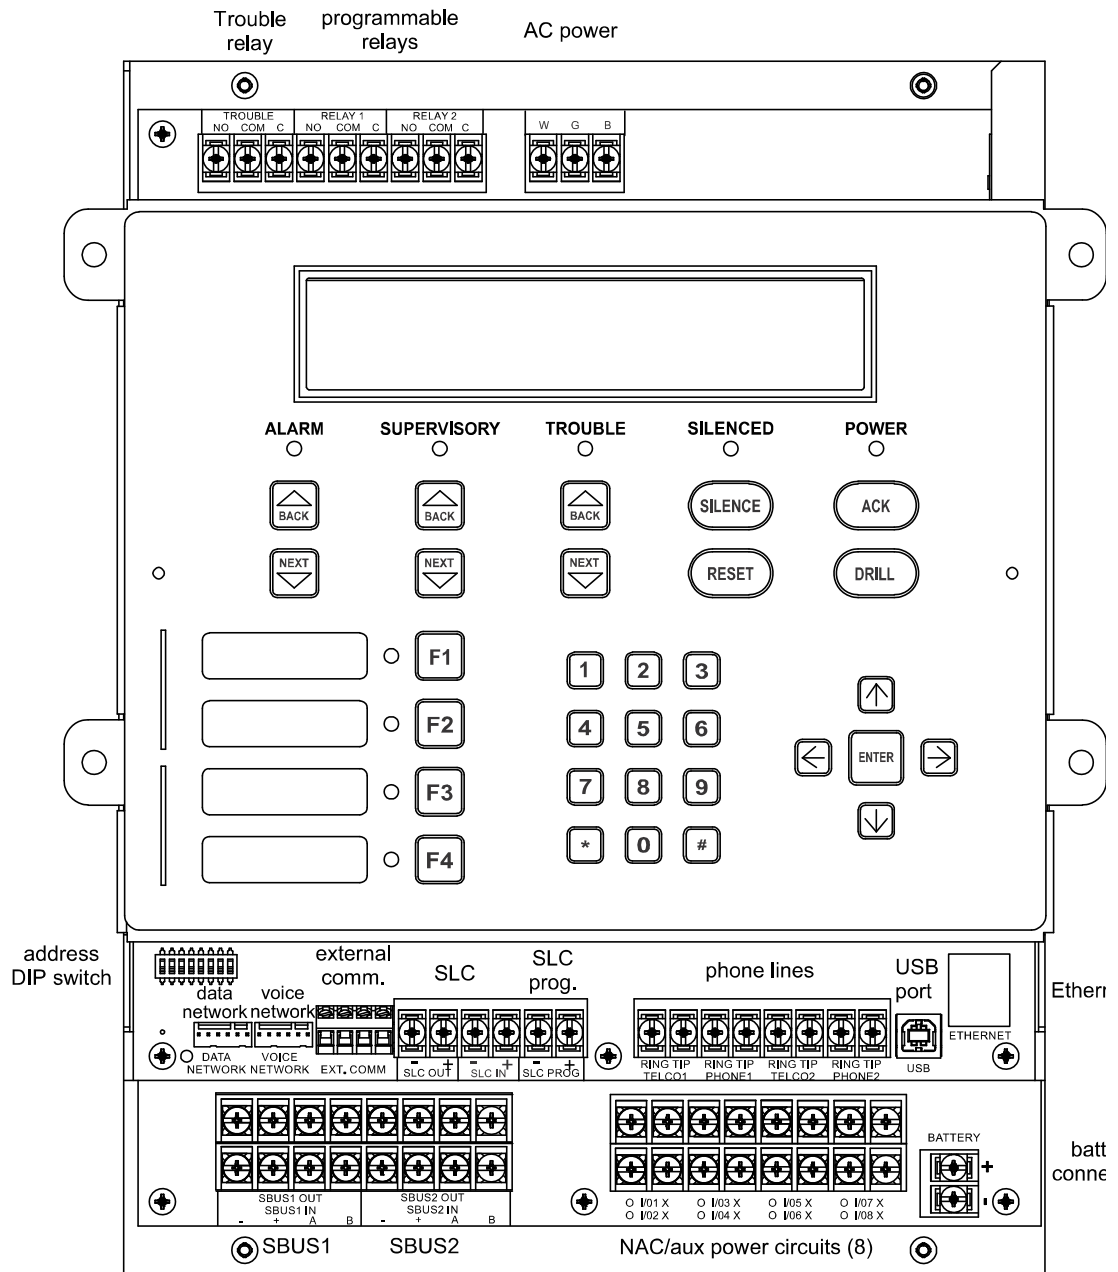

Figure 4.2 Base System Assembly Layout
- Route the wiring around the inside perimeter of the cabinet. It should not cross the circuit board where it could induce noise into the sensitive microelectronics or pick up unwanted RF noise from the high speed circuits. See Figure 4.2 for an example.